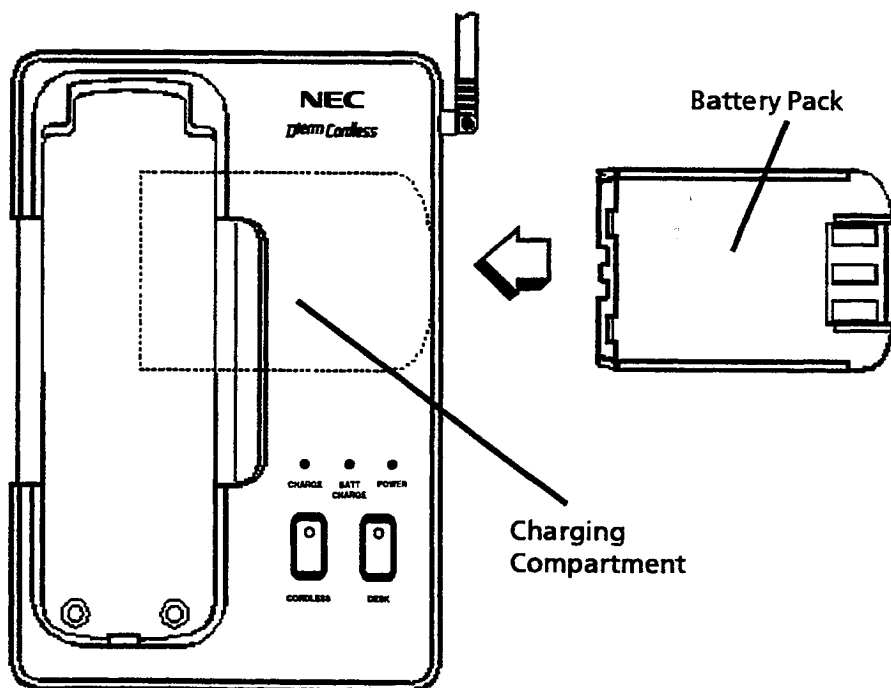

Figure 8-7 Sliding an Extra Battery Pack in the Spare Battery Charger
2. Slide the Battery Pack in the Charging Compartment until it clicks into place. Refer to Figure 8-7 - Sliding an Extra Battery Pack into the Spare Battery Charger.